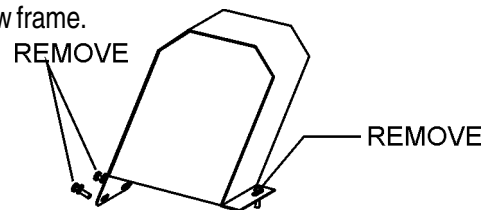

Figure 13. V-Belt Cover
1. Remove the 3 bolts that secure the V-belt cover (Figure 13) to the saw frame.